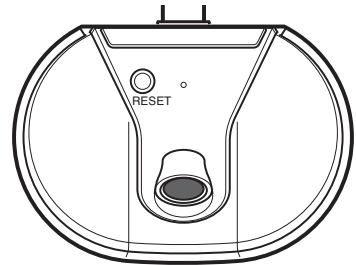

Figure 11
- Reset Button (see Figure 11) – Press the RESET button for 15 seconds to reset the light.